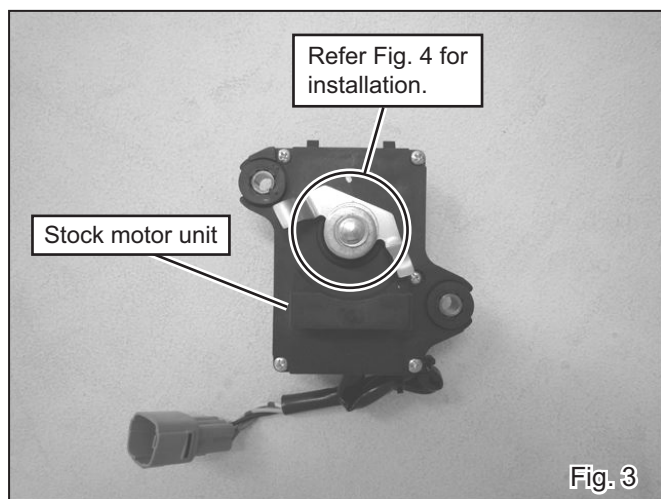

Fig. 3
- 9) Install Exhaust Control Valve Canceller Bracket on stock motor unit with Aluminum Spacer 12-20-7, Washer M12, Washer M5 and stock bolt. Then, tighten and torque bolt (See Fig. 3 & 4 on next page).